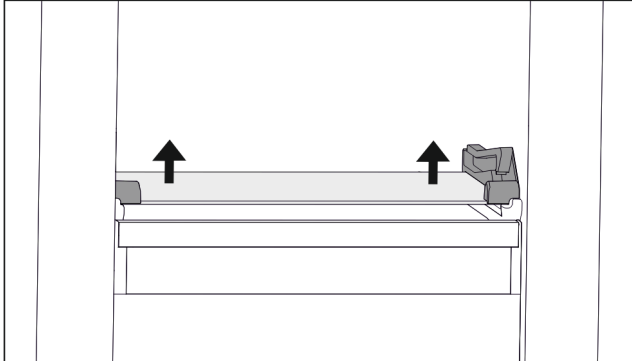

Fig. 66 Tilting drawer glass shelf
- ▶ Push glass shelf upwards from below on both sides. (see Fig. 66)